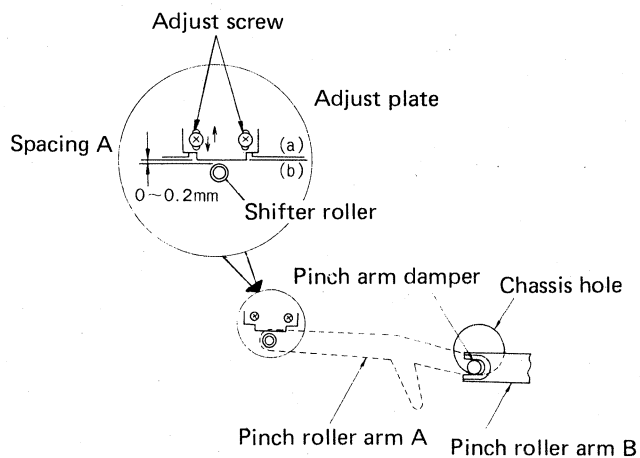
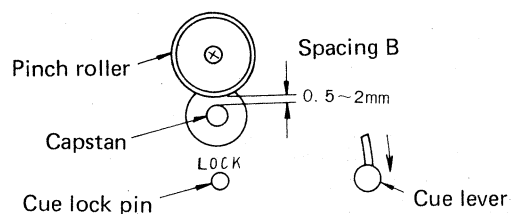

Fig. 15
Fig. 16
2. With deck in stop mode, loosen cue adjusting plate screws (Fig. 15) and adjust for 0 — 0.2 mm spacing A between shifter roller and cue adjusting plate.
3. After completing Step 1 and 2, with cue lever locked by means of lock switch on front panel, confirm 0.5 — 2 mm spacing B between pinch roller and capstan (Fig. 16). If not in this range, defective pinch roller shaft is indicated. Replace pinch roller arm A (Fig. 15) and repeat adjustments.